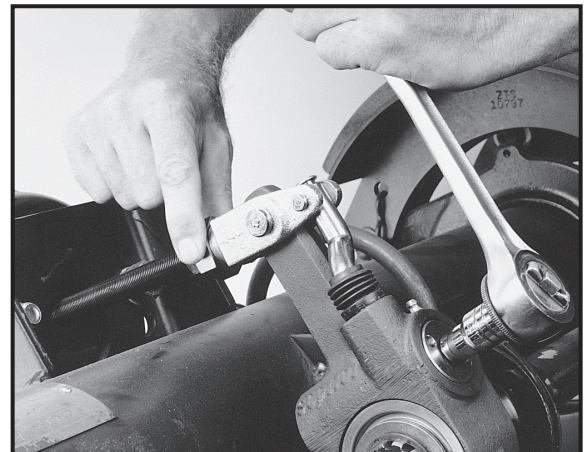

Figure 2 - Align the 1-1/4" collar nut with the threaded part of the clevis.
- Using the wrench or socket, rotate the hex extension to align the 1-1/4" collar nut with the threaded part of the clevis. See Figure 2.